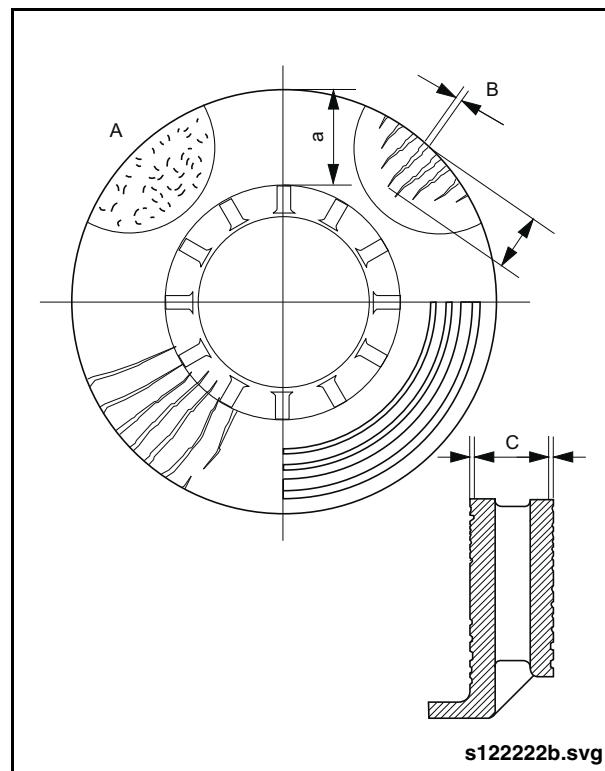

Fig. 1-49: Brake Disc Condition
3. Inspect the brake disc for cracks and scoring. See "Fig. 1-49: Brake Disc Condition" on page 54.